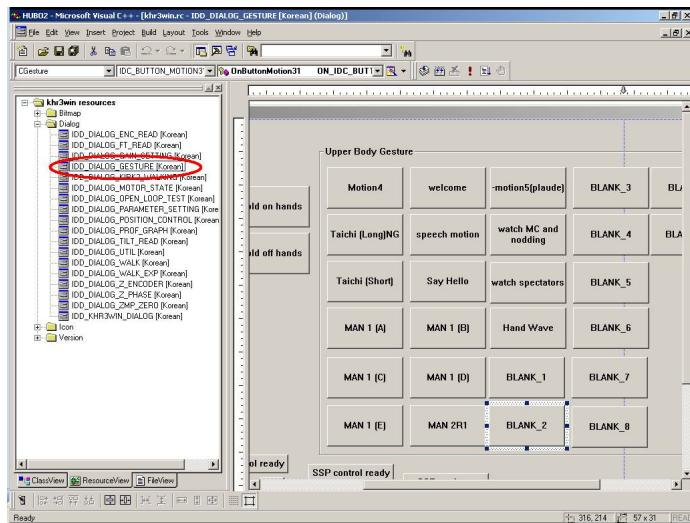

Figure 30: Double click on *IDD_DIALOG_GESTURE*
5. Double click on *IDD_DIALOG_GESTURE*, see Figure 30.